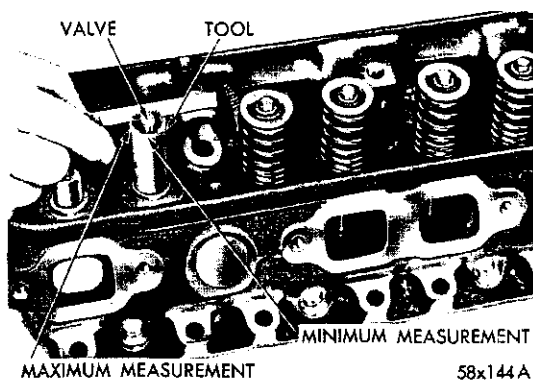

Fig. 17—Measuring Valve Stem Length
(1) The angle of both the valve and seat should be identical. When refacing the valve seats, it is important that the correct size valve guide pilot be used for reseating stones. A true and complete valve seat surface must be obtained.
(2) Measure the concentricity of the valve seat using a dial indicator. The total runout should not exceed .002 inch (total indicator reading). When the seat is properly positioned, the width of intake seats should be 1/16 to 3/32 inch. The width of exhaust seats should be 3/64 to 1/16 inch.
(3) When the valves and seats are reground, the position of the valve in the cylinder head is changed, shortening the operating length of the hydraulic tappet. This means that the plunger is operating closer to its "bottomed" position, and less clearance is available for thermal expansion of valve mechanism during high speed driving.
(4) The design of the valve mechanism includes a safety factor to allow for a limited amount of wear, and the refacing of the valves and seats.
(5) To insure that the limits have not been exceeded, the dimension from the valve spring seat in the head to the valve tip should be measured with gauge, Tool C-3648, as shown in Figure 17.